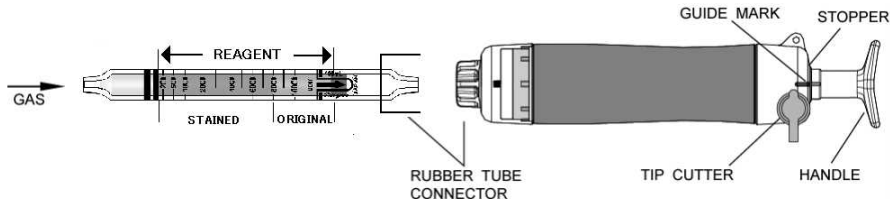

Fig.1
- ② Insert the detector tube into the aspirating pump securely as shown in Fig.1. (Arrow mark shall point to the pump.)
- ③ Align the guide marks on the shaft and stopper of the aspirating pump.
- ④ Pull the pump handle at a full stroke until it locks and wait for 1.5 minutes or until the completion of sampling is confirmed with the flow indicator of the pump (See descriptions about the flow indicator